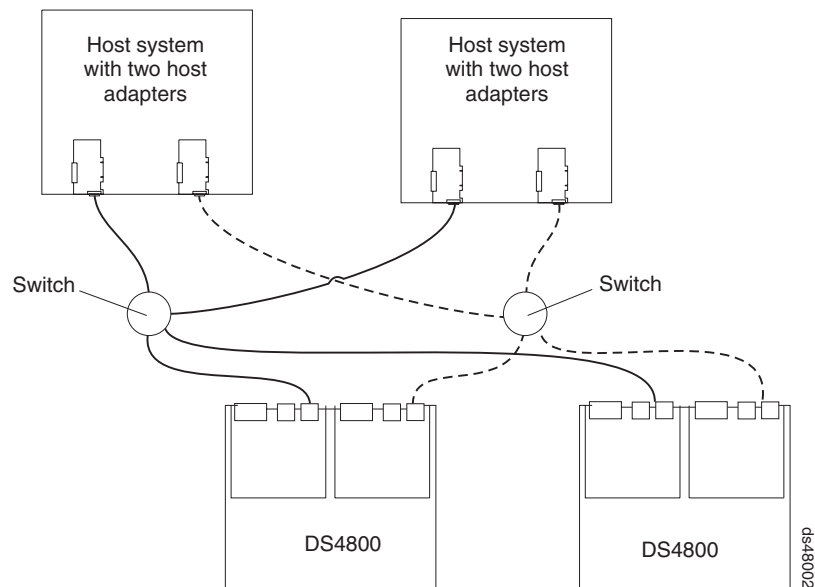

Figure 69. Example of two storage subsystems in a dual SAN environment
- Dual SAN fabric configuration, with an additional DS4800 attached, as shown in Figure 69 on page 97
In Figure 69, the fibre channel switches are not connected together. Each switch forms its own SAN fabric.